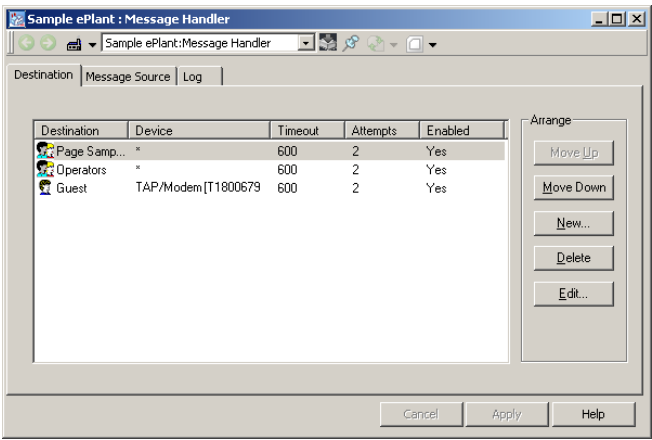
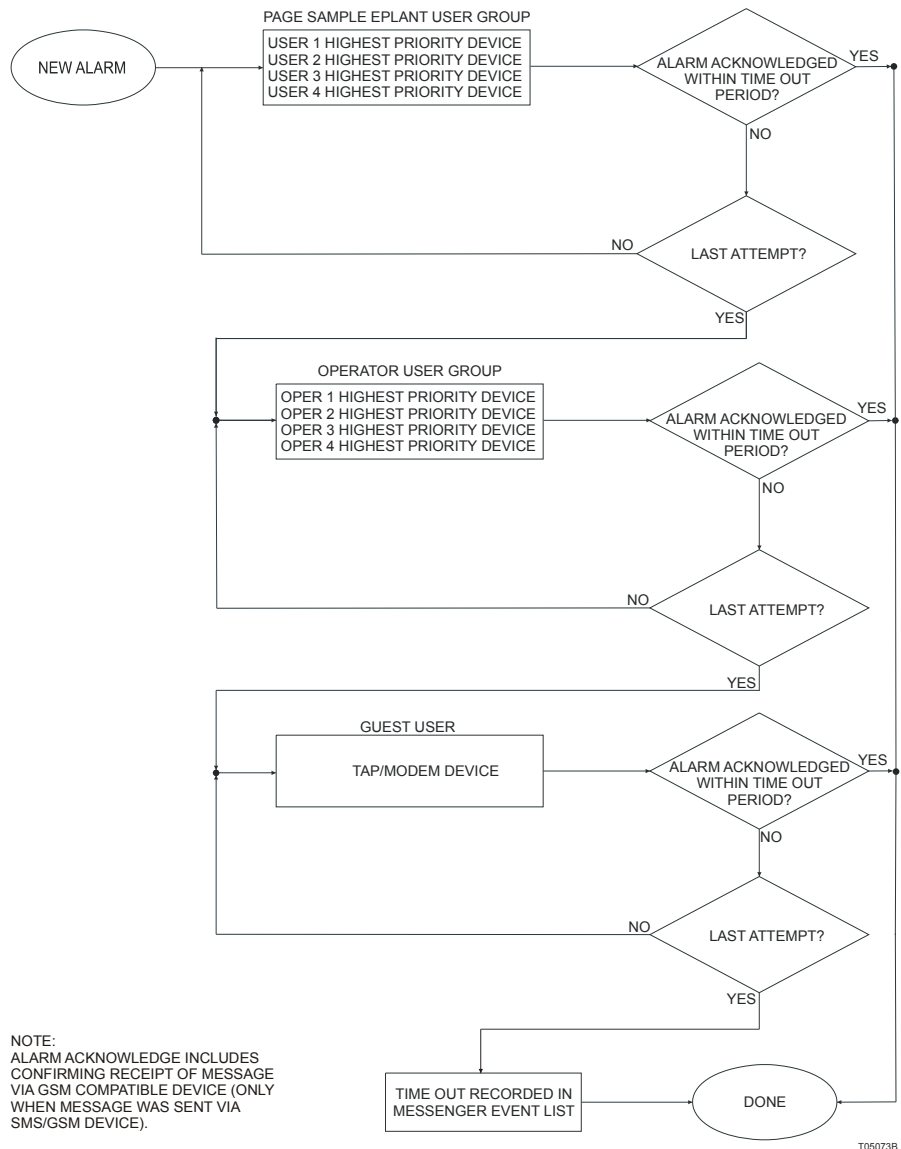

Figure 119. Configured Destinations Tab
Figure 120. Sequence of Events for Message Handler in Figure 119
- 21. Figure 119 shows a completed message destination configuration with two user groups (Page Sample ePlant and Operators) and a TAP/Modem Device for an individual user (Guest) configured.
- For example, using the configuration shown in Figure 119, the sequence of events is illustrated in Figure 120.